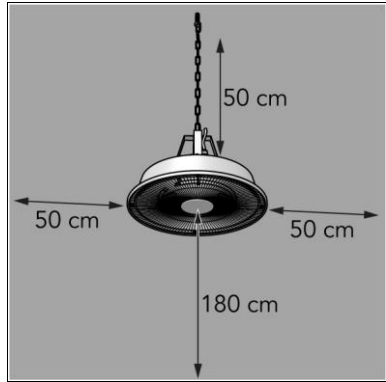

Figure 6
1. Place the device with a minimum distance (Figure 6) of: